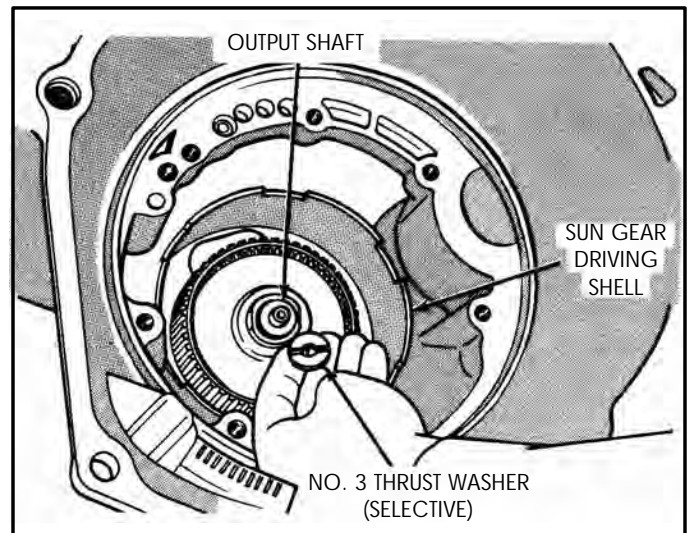

Figure 47
27. Remove the number 3 selective thrust washer, shown in Figure 47.